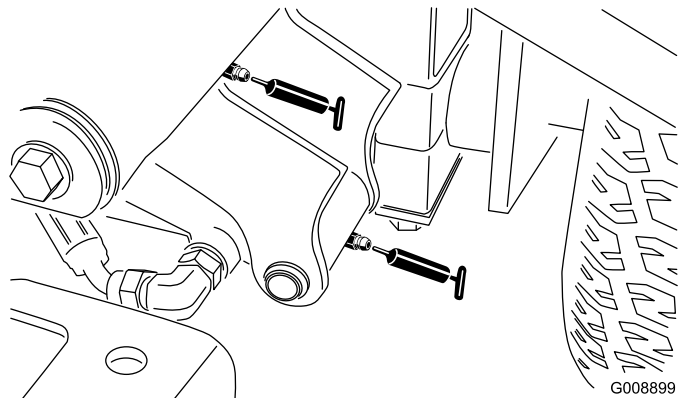

Figure 54
- Left front lift arm pivot and lift cylinder (2) (Figure 54)